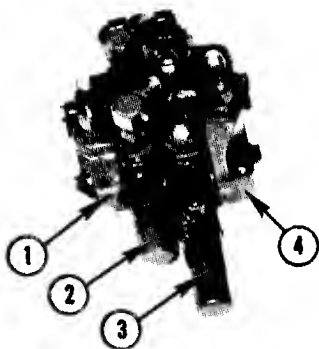

FIG. 5.5--MAIN COMPONENTS ASSEMBLED.
1. Stand the control valve on the heads of the three tie-bolts and remove the nuts and washers from the tie-bolts. The plates and bodies are identified in figures 5.5. and 5.6.